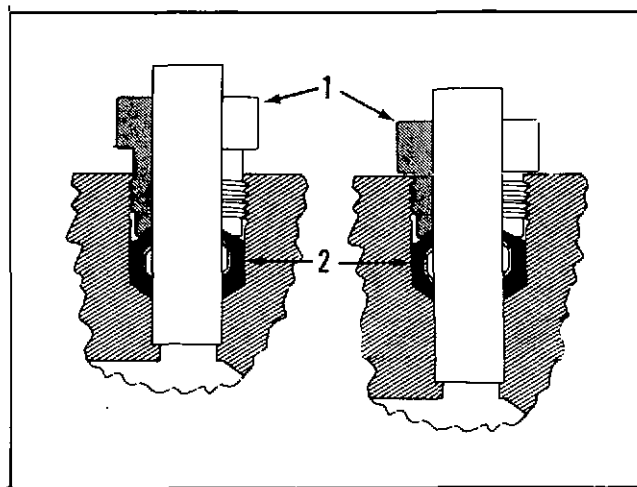

Fig. 5-4. (F60291). Sealastic fuel tubing fitting in the fuel block
1. Install the fuel fitting nut and the ferrule seal (1) and (2) of Fig. 5-4 over the fuel tube(s). **Do not** install the ferrule into the machined counterbore in the fuel block and then pass fuel tube through the ferrule. This can result in a damaged ferrule and/or an improperly located fuel tube.
2. Install the fuel tube so that the tube end rests against the machined stop in the fuel block, Fig. 5-4.
**Note:** The sealing ferrule (2), Fig. 5-4 is available separately.